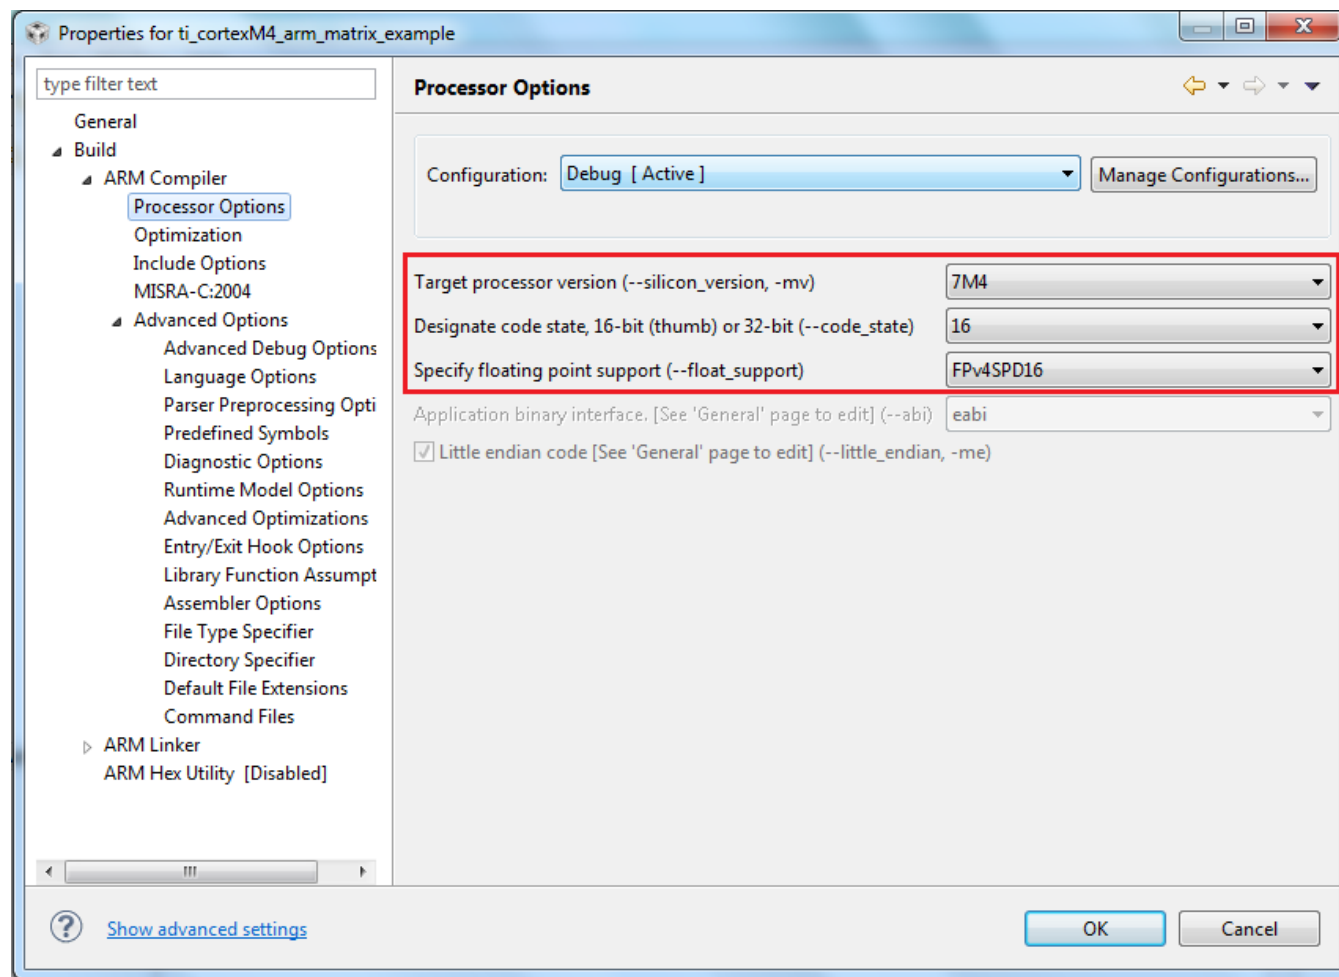

Figure 17. The Processor Options Used for Building the Example on a Cortex-M4 Process With hardware FPU Support
3. Confirm that the *Target_processor version (--silicon_version, -mv)* entry matches your processor in the Processor Options panel (see Figure 17). For this example, the Target processor should be 7M4 (as opposed to 7M3 for any of the Stellaris Cortex-M3 products).